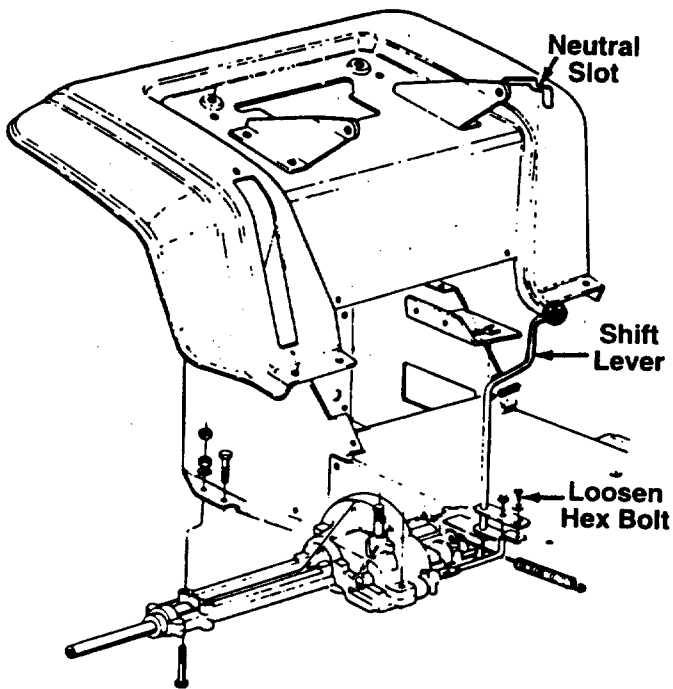

FIGURE 12.
2. Loosen the bolt which secures the shift lever assembly to the shift lever adjusting link. See figure 12.
3. Place the shift lever in the neutral slot. See figure 12.